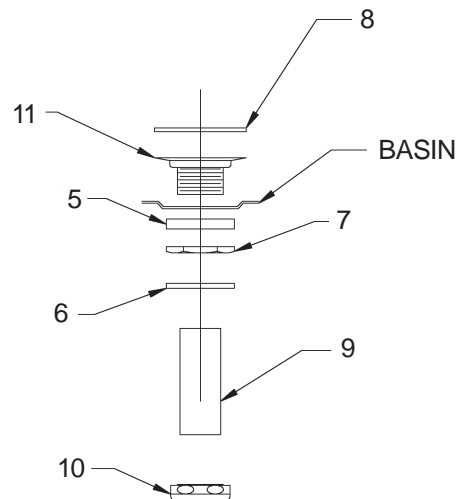

FIG. 15
11. **Install** tailpiece assembly (as shown in Figure 15). Connect waste trap (not provided).